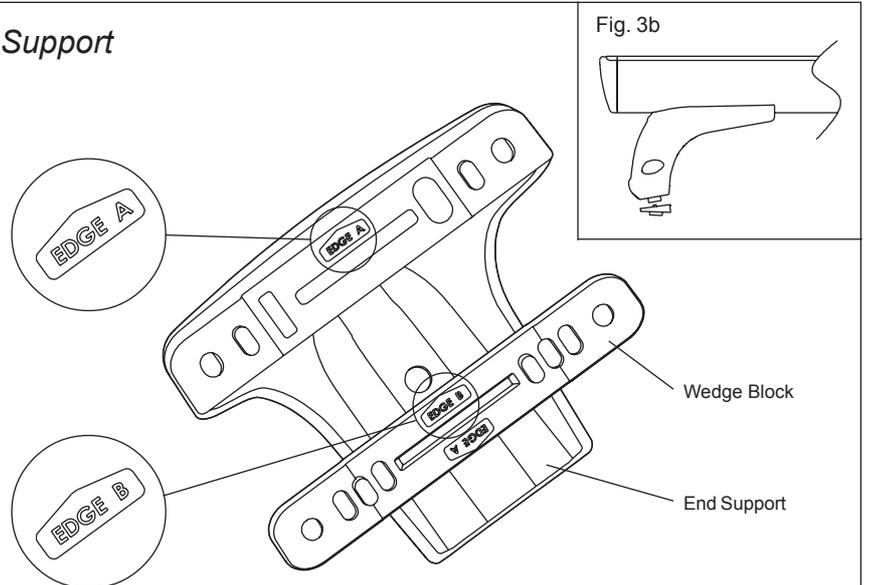

Fig. 3a
- A. Fit Wedge Block to End Support. (Orientation shown in Figures 3a & 3b.)